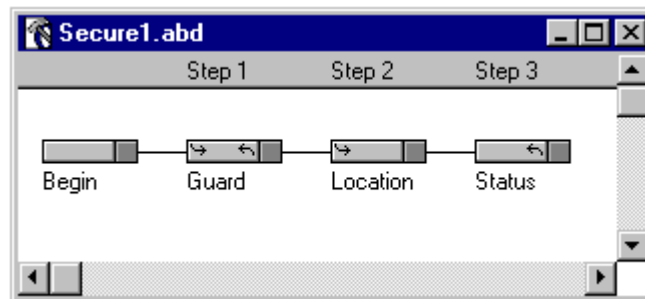

Figure 1-8 Secure1.abd Application
8. The sample application is displayed (Figure 1-8). The application is a three-step security application named **Secure1.abd**.